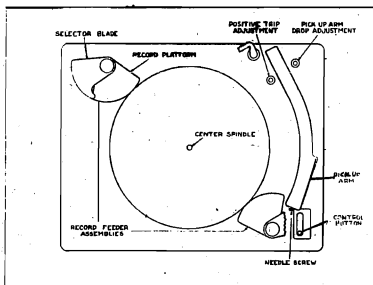

Fig. 1
2. Push the control button (see Fig. 1) to the "Rej." (Reject) position and release. The motor will start and the record changer will go into automatic operation.